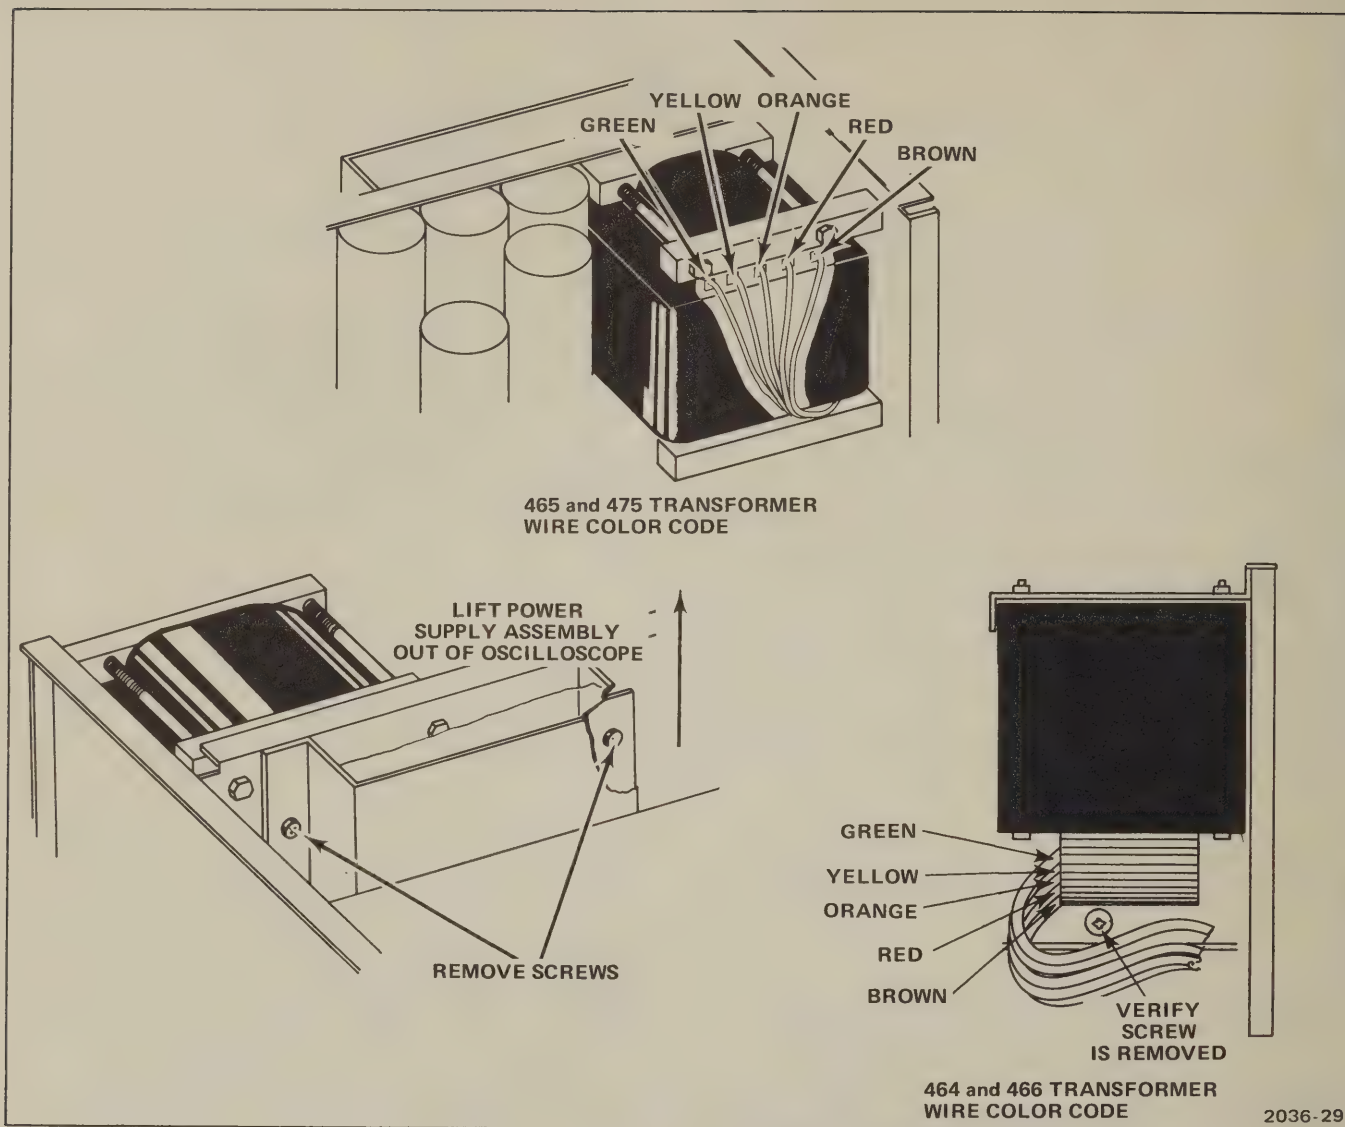

Fig. 5-4. DM44 Power Supply assembly removal.
3. Unsolder five wires from the power transformer (see Figure 5-4).
4. Remove one screw from near the power transformer (see Figure 5-4).